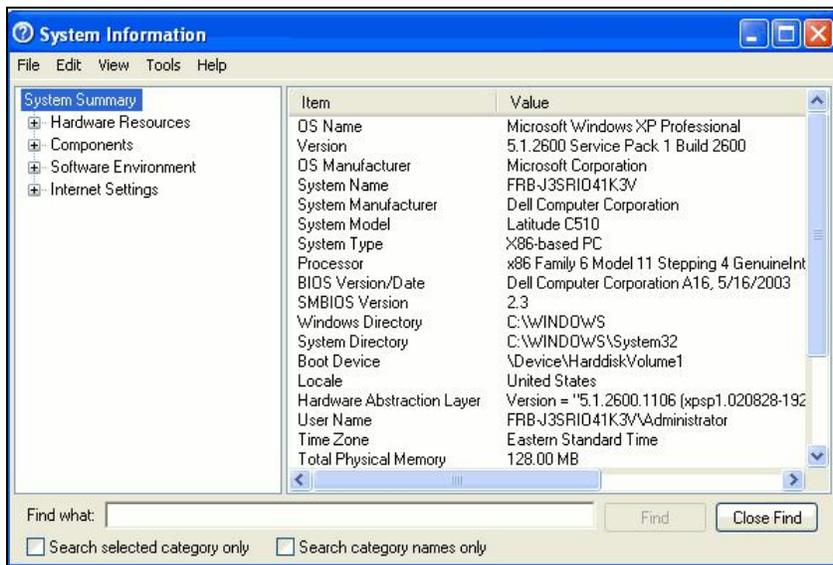

Figure 2.30
3. The Help window can also be used to obtain information pertaining to your computer. Click on the **'System Info'** button at the bottom of the window to display information regarding your computer. (Figure 2.30)